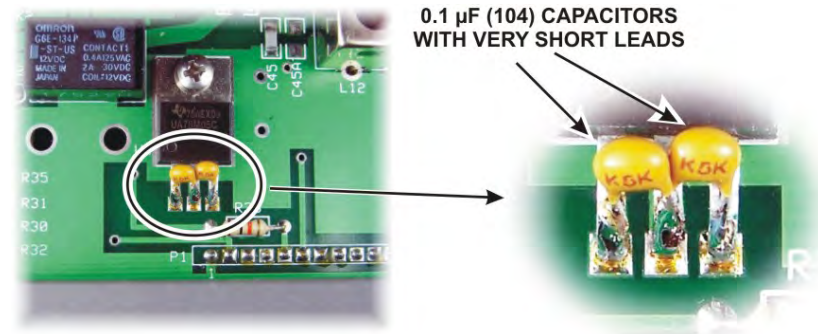

Figure 22. Installing the U4 Bypass Capacitors.
Install the two 0.1 μF (104) capacitors between U4's center and outer pins as shown in Figure 22. Solder the capacitors directly to U4's pins with very short leads. *Hint:* Bend the capacitor leads and hold them with your pliers while tacking one lead onto U4 with your soldering iron carrying a small drop of solder. Then solder the other lead, clean up the first connection if needed, and trim off the excess leads.